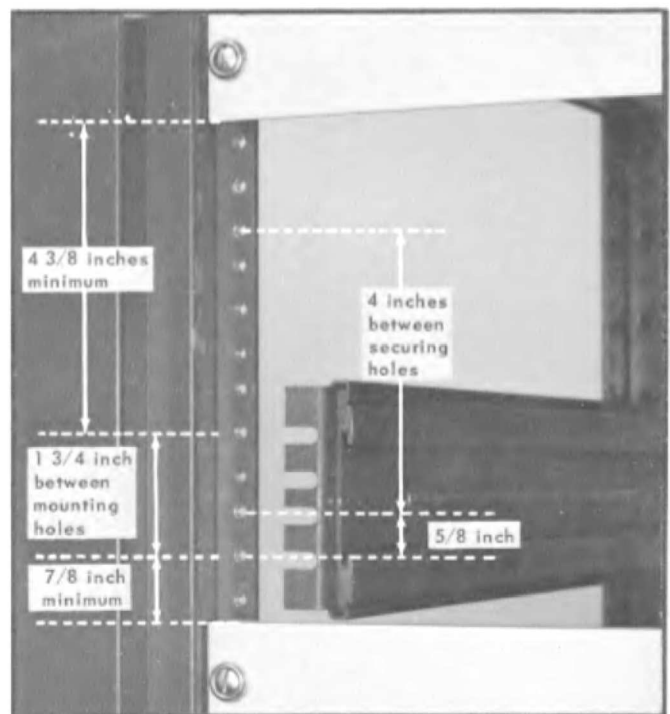

Fig. 10-4. Vertical mounting position for front end of slide-out tracks.
1. Referring to Fig. 10-4, select the proper front-rail mounting holes for the stationary sections.